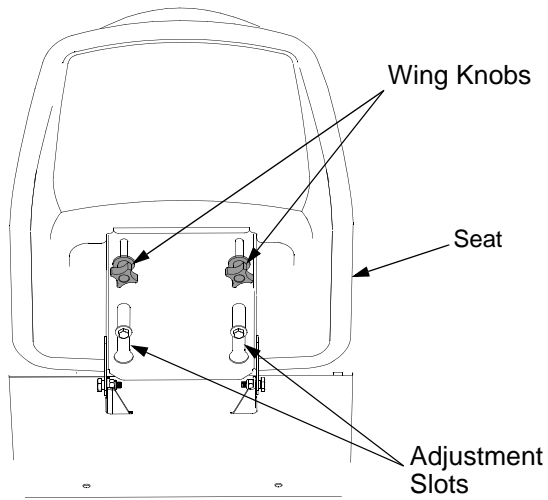

Figure 18
- Loosen the two wing knobs and slide the seat forward or backward in the adjustment slots to the desired position, then retighten the wing knobs. See Figure 18.